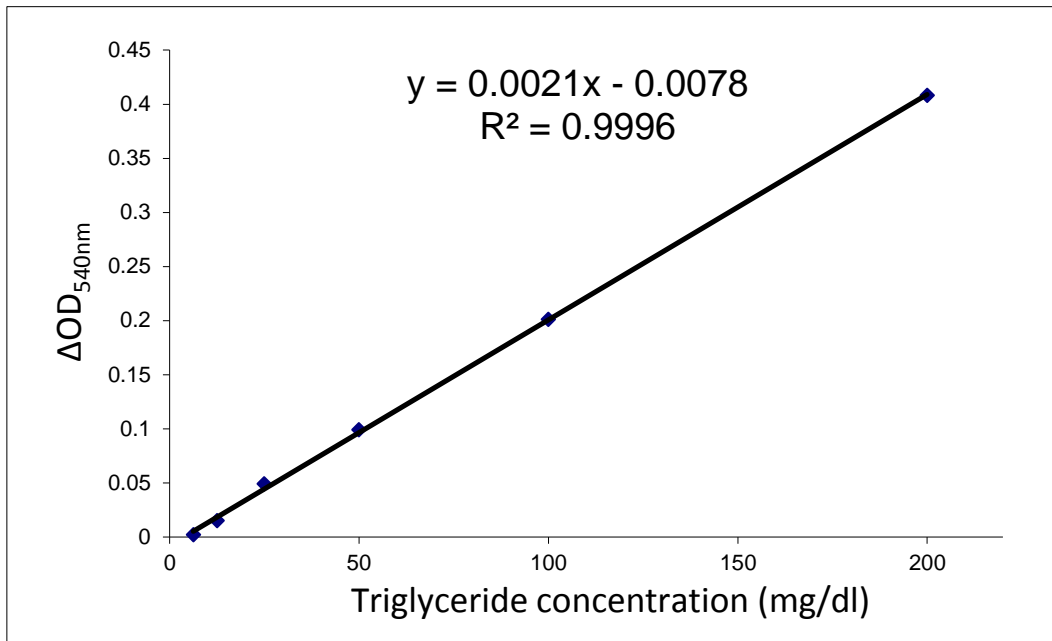

Figure1. A typical triglyceride standard curve measured by the ScienCell™ Triglyceride Assay kit
Data from the Triglyceride Assay kit measuring triglyceride solutions with concentrations ranging from 6.25 to 200 mg/dL show a linear relationship between OD540nm and triglyceride concentration (Figure 1).
2. Based on the calibrated  $\Delta\text{OD}_{540\text{nm}}$  of the triglyceride standard, make a standard curve by plotting  $\Delta\text{OD}_{540\text{nm}}$  as a function of triglyceride concentration (See Figure 1 for a typical standard curve). Determine the equation and  $R^2$  value of the trend line.